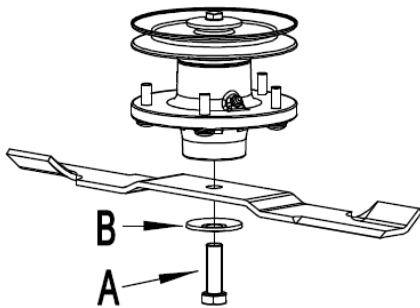

Fig. 12
Remove bolt (A), which has right-hand thread (Refer to Fig. 12), Remove lock elastic washer (B), blade.
- Re-install each mower blade with the lift of blade pointing up towards the mower deck as shown in Fig. 12. Secure with the mower blade mounting bolt and elastic washer (Fig. 12) and torque to 156-163N.m.